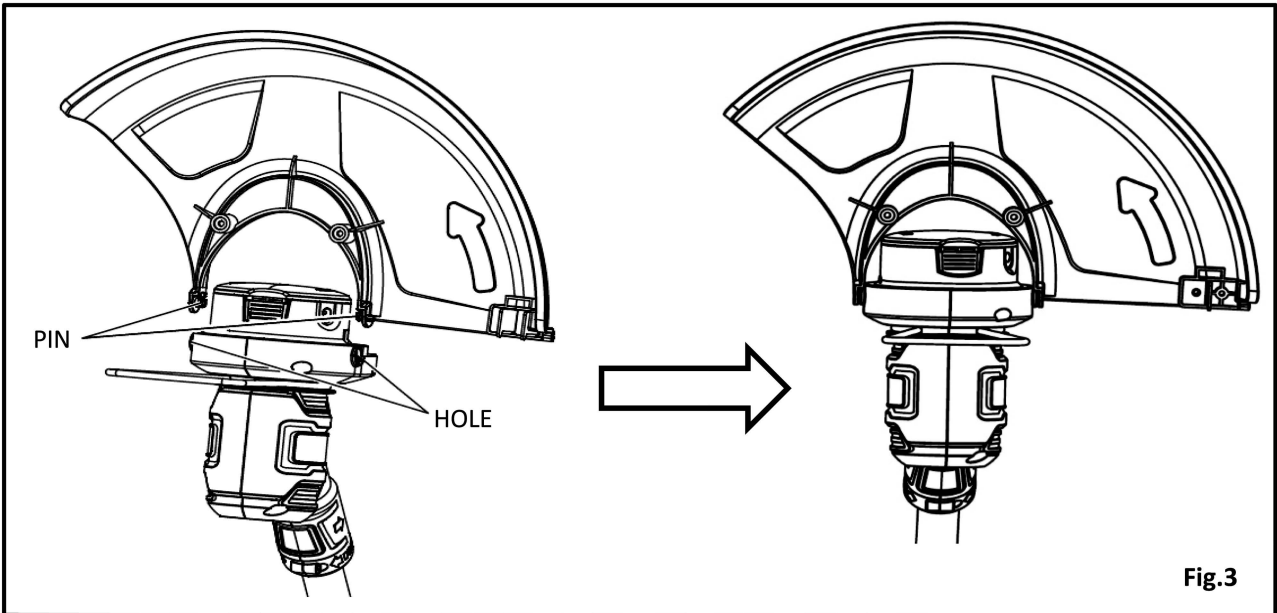

Fig.3
1. Inset the pin into the hole of the motor housing.(see Fig. 3)